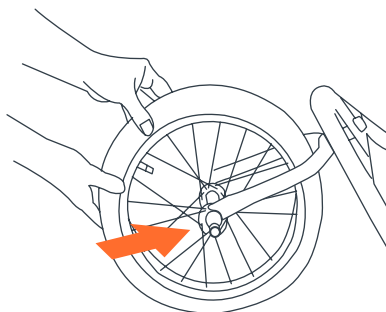

Fig. 2
- 2)** • Slide the front wheel onto the front forks (Fig. 2).